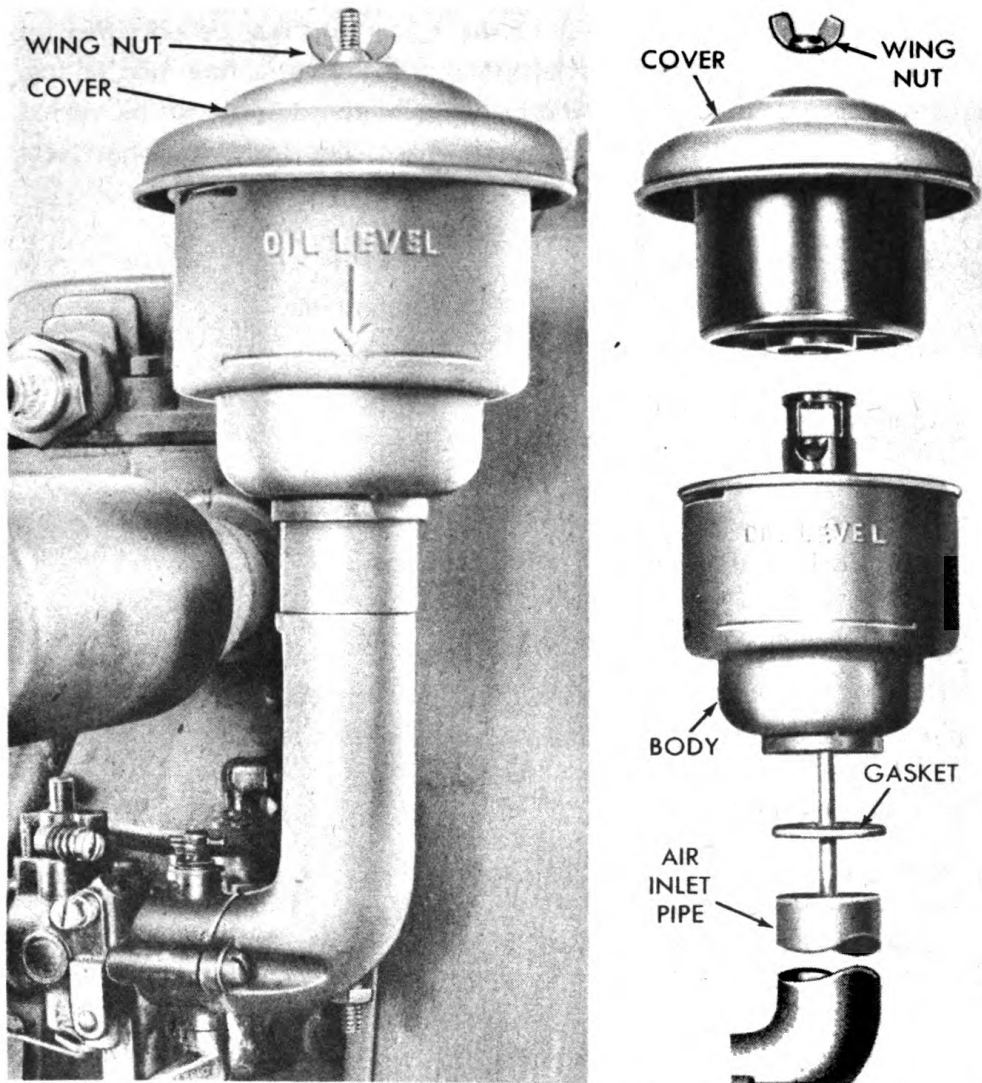

Figure 19—Carburetor Air Cleaner
c. **Carburetor Air Cleaner.** (See figure 19.)—Fill to level indicated on inside of cleaner, using engine oil (O.E.).